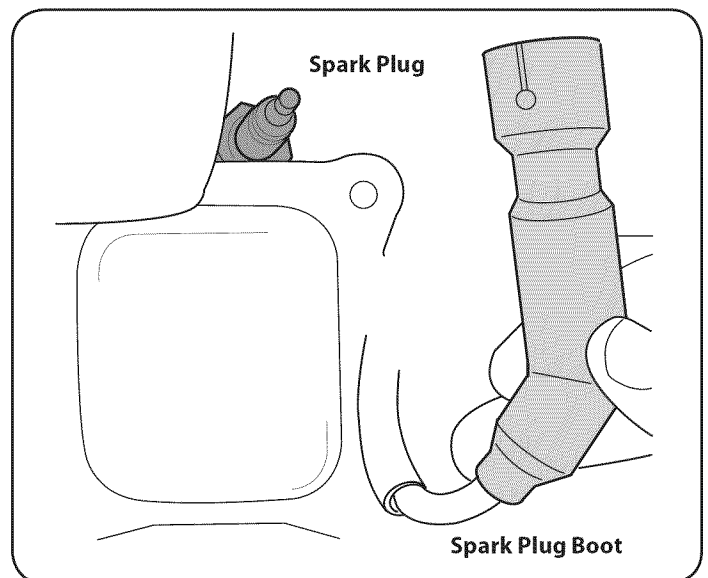

Figure 15
- Remove the spark plug boot and use a spark plug wrench to remove the plug. See Figure 15.